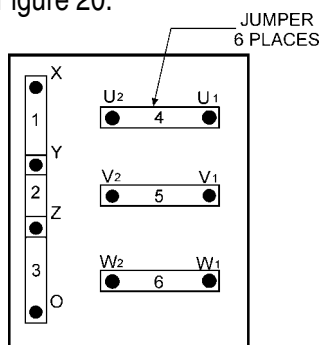

Figure 20. Voltage Change-Over Board
1. Jumper the voltage change-over board for 240V operation as shown in Figure 20.
1. Make sure the voltage change-over board is jumpered for 240V operation as shown in Figure 20 .
1. Make sure the voltage change-over board is jumpered for 240V operation as shown in Figure 20.